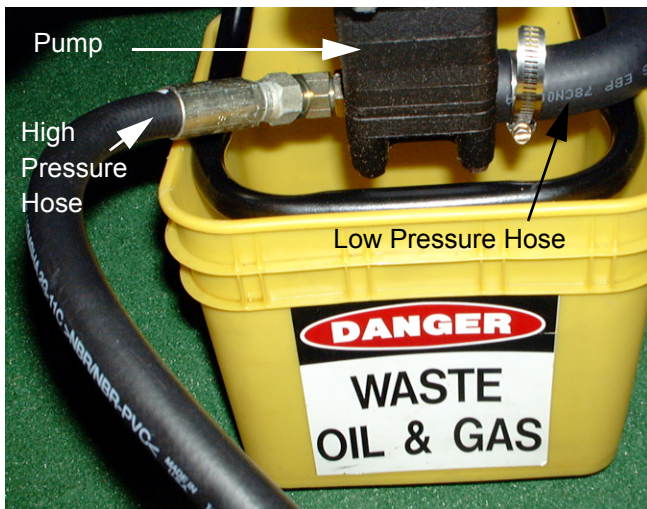

Figure 7
9. Momentarily remove the suction hose from the bottom of the pump and lower it into an oil drain container, making certain there is sufficient flow from the reservoir.____ See Figure 7.